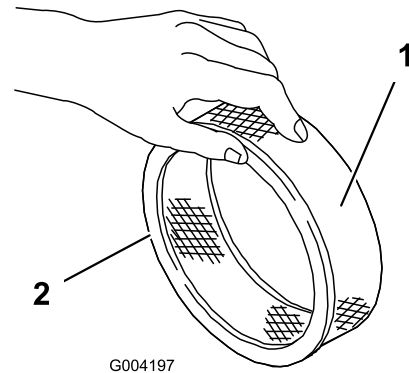

Figure 27
5. Inspect the paper filter for tears, an oily film, and damage to the rubber seal (Figure 27).
1. Carefully slide the foam pre-filter onto the paper filter (Figure 27).